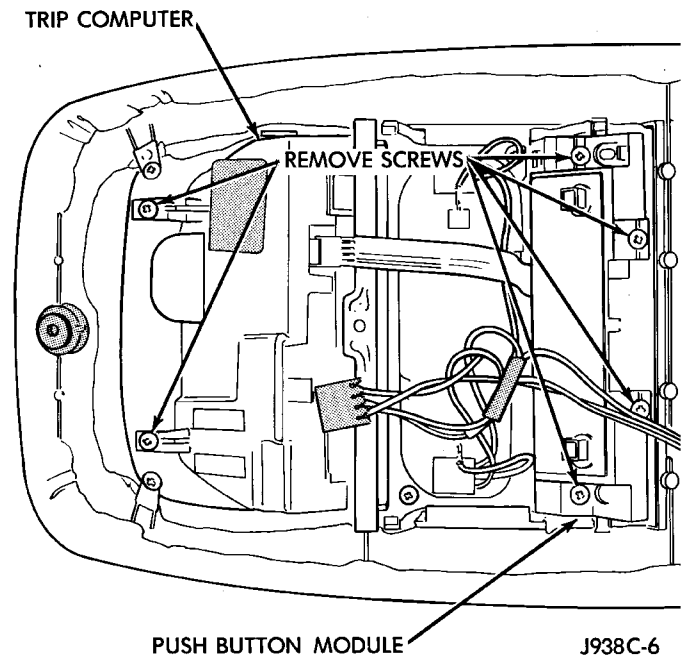

Fig. 5 Trip Computer, Compass, and Thermometer Display Module Remove/Install - Typical
(1) Remove the overhead console from the vehicle. See Overhead Console in this group for the procedures.
(2) Remove the two screws that secure the forward end of the trip computer, compass, and thermometer display module to the overhead console housing (Fig. 5).